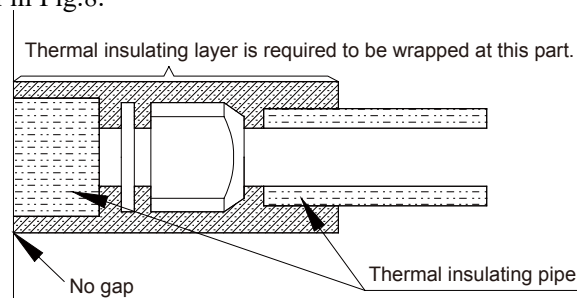

Fig 8
(2)The joints of the indoor unit should be wrapped with the insulating material and no gap is allowed on the joint of the indoor unit, as shown in Fig.8.